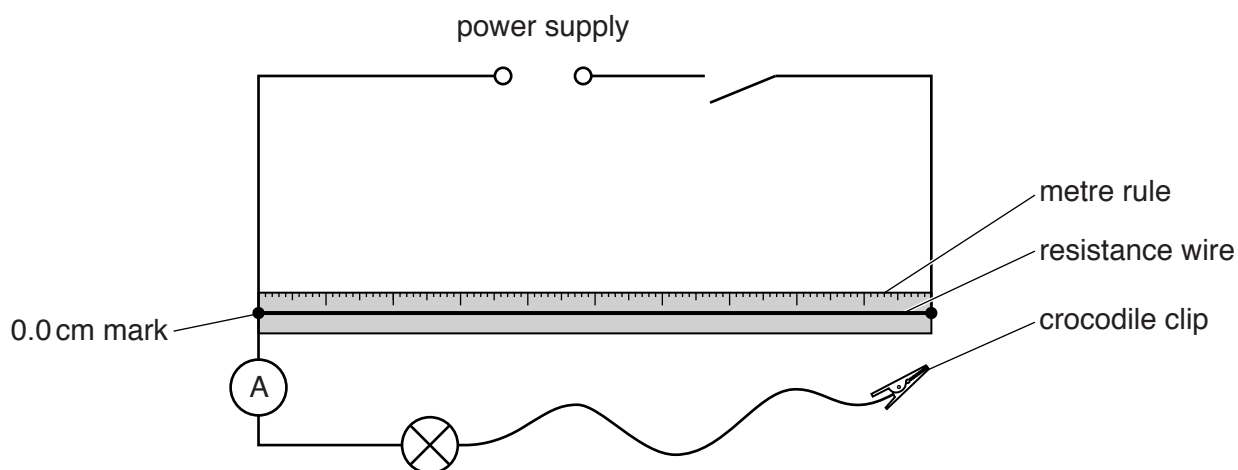

Fig. 1.1
- (vi) Sufficient connecting leads to set up the circuit shown in Fig. 1.1 and 2 additional leads.
2. The circuit is to be set up for candidates as shown in Fig. 1.1, with the crocodile clip not connected to the resistance wire. The voltmeter must be supplied separately. Candidates must be able easily to connect the voltmeter across the lamp.
Check that the circuit is working. Disconnect the voltmeter. Disconnect the crocodile clip from the resistance wire. Ensure that the circuit is connected as shown in Fig. 1.1 and ensure that the circuit is switched off.